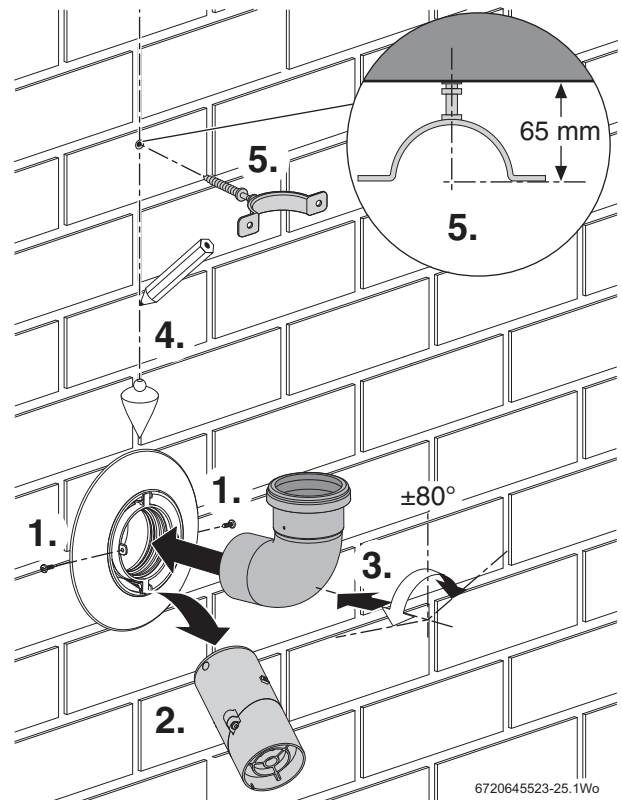

Fig. 41 Terminal bend installation
Refer to figure 41 for terminal bend installation.
4. Screw the clamp into the wall plug to the distance shown in figure 41.
1. Refer to figure 41, remove and retain the screws securing the terminal end and discard the terminal end.
1. Refer to figure 41 and remove and retain the screws and terminal end.